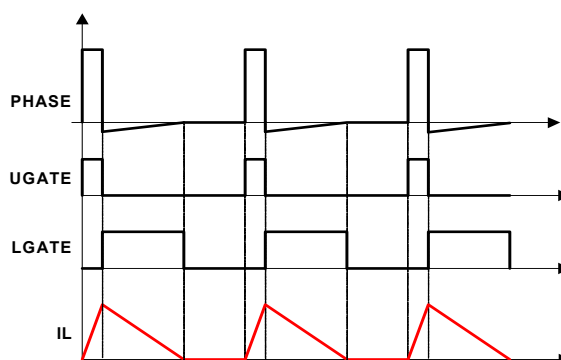

Figure 27. Diode Emulation
The R3 modulator can operate in Diode Emulation (DE) mode to increase light-load efficiency. For example, in Buck DE mode the low-side MOSFET conducts when the current is flowing from source-to-drain and does not allow reverse current, emulating a diode. As shown in Figure 27, when LGATE is on, the low-side MOSFET carries current, which creates negative voltage on the phase node due to the voltage drop across the ON-resistance. The IC monitors the current by monitoring the phase node voltage. It turns off LGATE when the
If the load current is light enough, as Figure 27 shows, the inductor current reaches and stays at zero before the next phase node pulse. At this stage, the regulator is in Discontinuous Conduction Mode (DCM). If the load current is heavy enough, the inductor current never reaches 0A and the regulator is in CCM, although the controller is in DE mode.